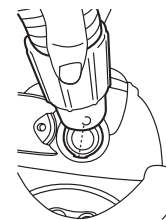

Fig. 2
- Insert the body end of the hose into the hose inlet on the top of the cleaner. (Fig. 2)
- Line up circular tab on hose cuff with inner groove. (Fig. 2)